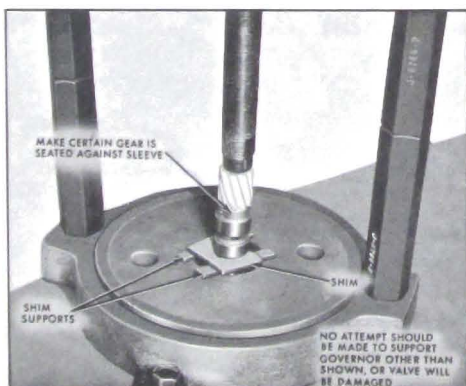

Figure 5-241
b. Place shim supplied in replacement gear kit between the second and third lands of governor sleeve. See Figure 5-241.
c. Make certain new gear is positioned squarely on sleeve and press gear onto sleeve. Gear must be seated against sleeve. See Figure 5-241.